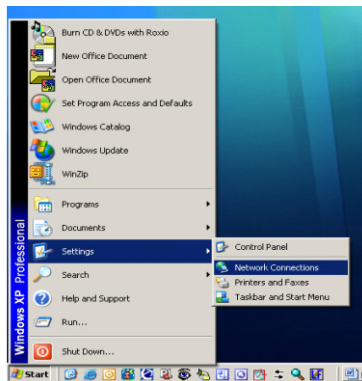

Figure B-4: Accessing Network Connections
4. Click in Windows on **Start | Settings | Network connections** (Figure B-4).